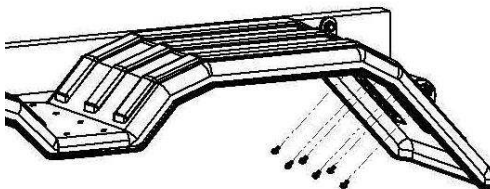

Figure 16
- a. With the bracket separated from the truck, install six 5/16" x 5/8" bolts and fender washers through the fender and into the bracket. **Turn each bolt approximately 2 full turns. Do not fully tighten.** See Figure 16 below.